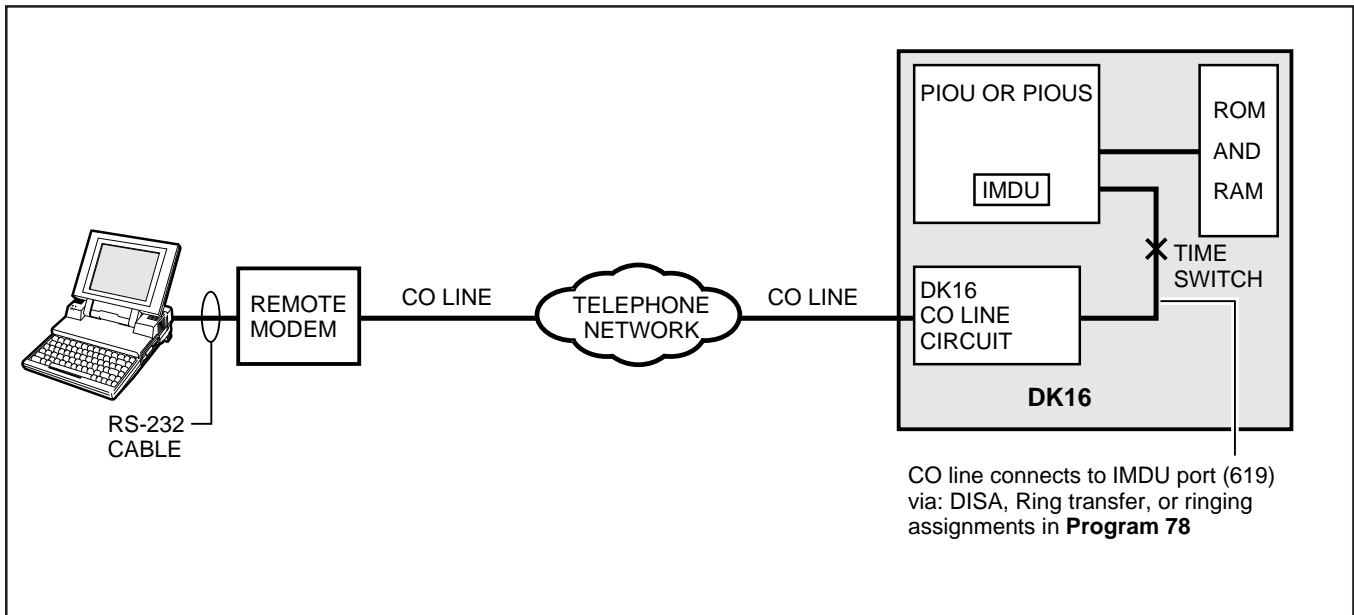

FIGURE 4
- With the DK16, the IMDU modem (300 or 1200 baud full-duplex) can be connected to the DK16 PIU or PIOUS to allow system programming and testing to be accomplished from a remote location (Figure 4).
4.31 **DK16 IMDU Maintenance Modem (Figure 4).** The IMDU mounts on the PIOU or PIOUS PCB and provides 300 or 1200 bps, full-duplex communication for remote maintenance (seven bits, even parity, one-stop bit). If the IMDU is employed, a dedicated CO line or standard telephone port is not required. Connection of the remote maintenance terminal is through existing system CO lines via intercom number 619. Refer to the PIOU or PIOUS portion of Section **200-816-205** for hardware installation and programming requirements.